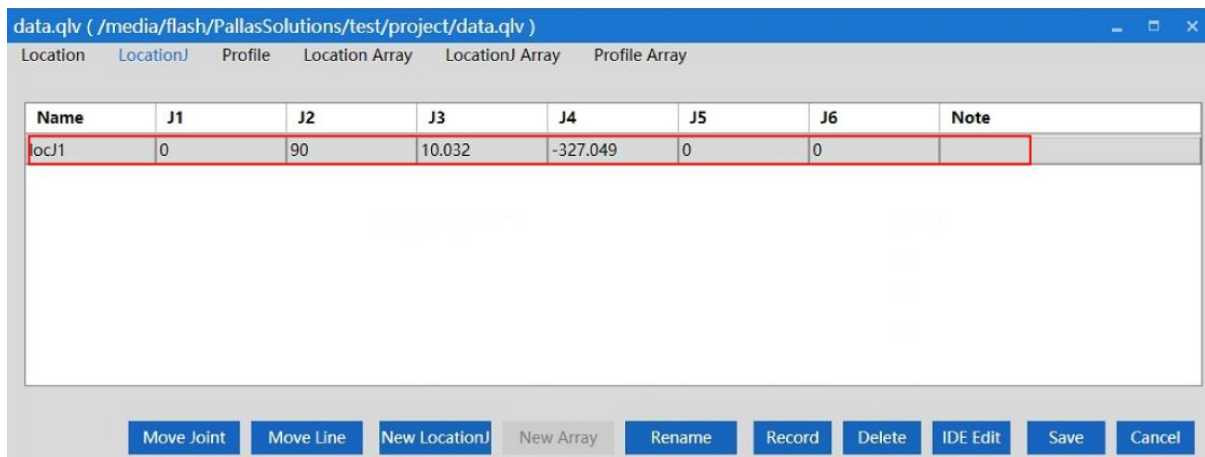

Figure 6-34 New LocationJ
Step 2 New LocationJ; Click "New Location" in "LocationJ", and the point information of the current robot's axis coordinate position will appear in the interface. The point name is the default name, and you can click Rename to modify it, as shown in Figure 6-34.